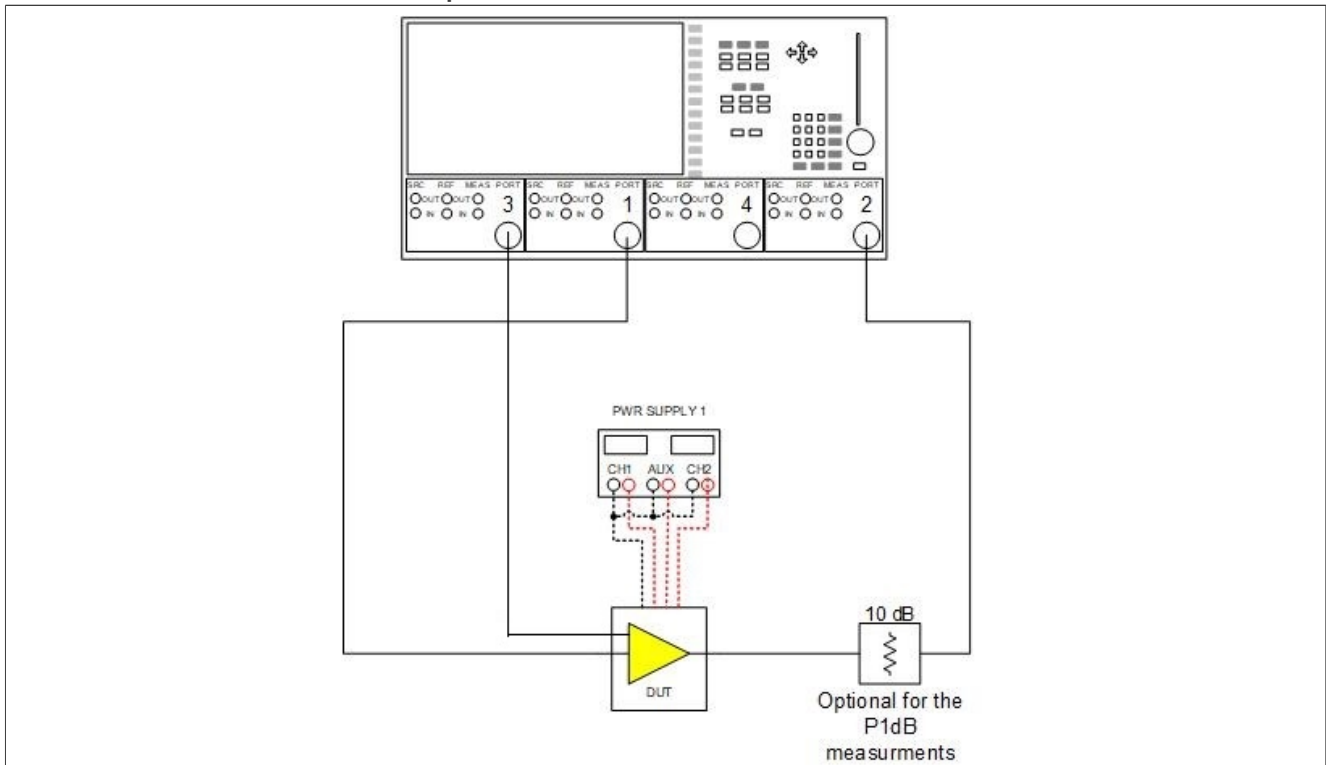

Figure 20. S-parameter and P_{1dB} gain compression setup
The measured S-parameters and Rollett stability factor K, are given in the graphs below. For the measurements, a typical BTS6305U EVB is used. All the S-parameter measurements have been carried out using the setup Figure 20.
The P_o and Gain are measured versus P_i using the setup shown in Figure 20.
The OP1dB is measured using the setup shown in Figure 20.
1. Connect the EVB to a calibrated network analyzer see Figure 20, we advise the following settings for S-parameter measurements: